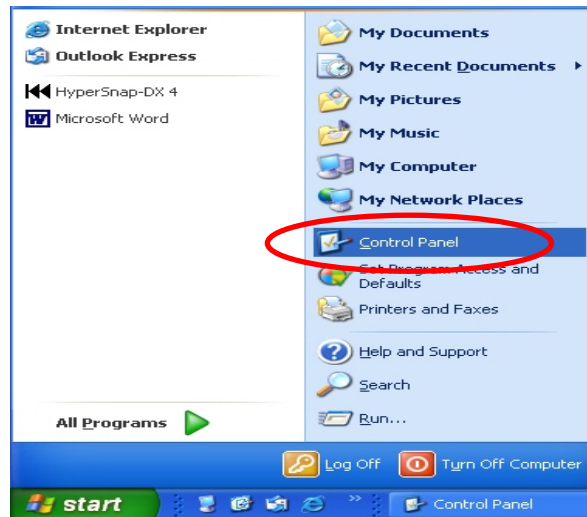

Figure 5-7: Select settings
Step 1: Click “Start” in the task bar, then click the Control Panel as shown in figure 5-7.